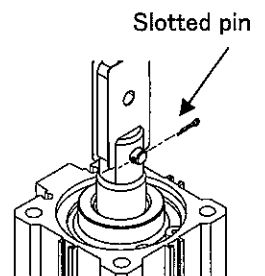

Fig. 7-6
• Pull out slotted pin and remove pin B. (Fig. 7-6, 7-7)